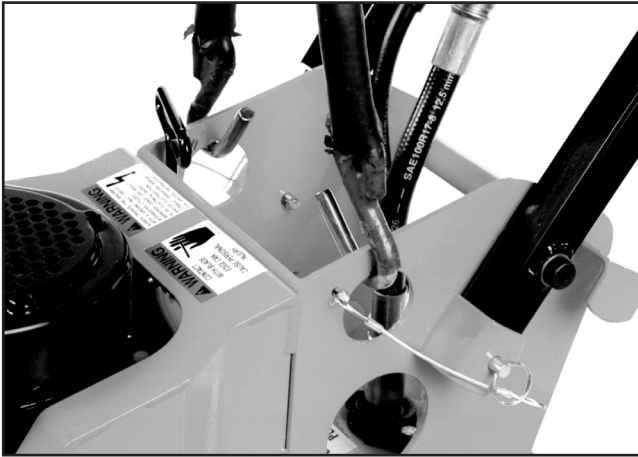
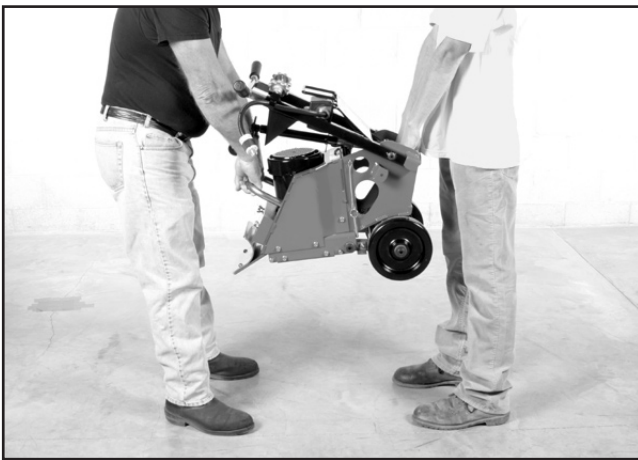

FIGURE 16
FIGURE 17
1) The Floor Stripper can be hoisted by a mechanical device incorporating a chain and suitable attachment device to the lifting bail area located behind the electric motor. FIGURE 16. This location may not always locate the exact position of the center of gravity for the Floor Stripper. Lifting handles are also provided on both sides of the main frame. These handles can be utilized by personnel whenever lifting/lowering the Floor Stripper. FIGURE 17.